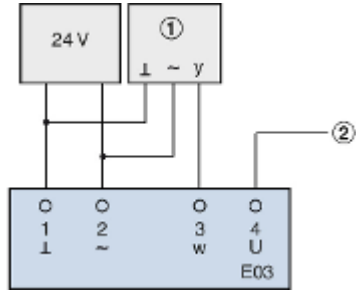

Fig. 14: Constant control input signal E03
**Room temperature control Fig. 14**